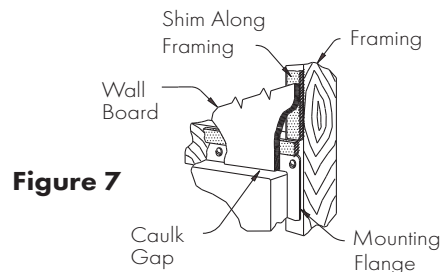

Figure 7
9. Finish wall board as detailed in Figure 7.